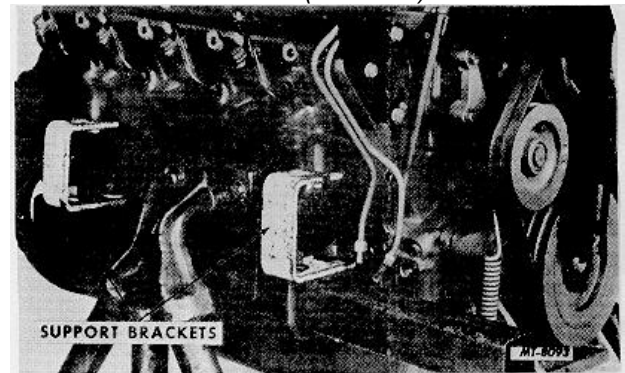

Fig. 15 Engine Stand Support Brackets (Right Side)
- h. Mount engine in overhaul stand using SE-2105 support plates and brackets (Figures 15 and 16).